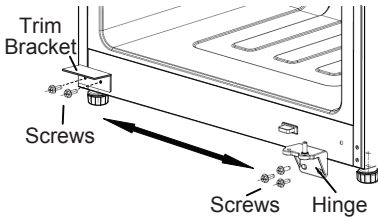

Figure 6
- Remove three screws that hold the bottom hinge to lower end of cabinet. Remove the trim bracket from lower left hand corner and transfer to holes where bottom hinge was just removed. (See Figure 6.)